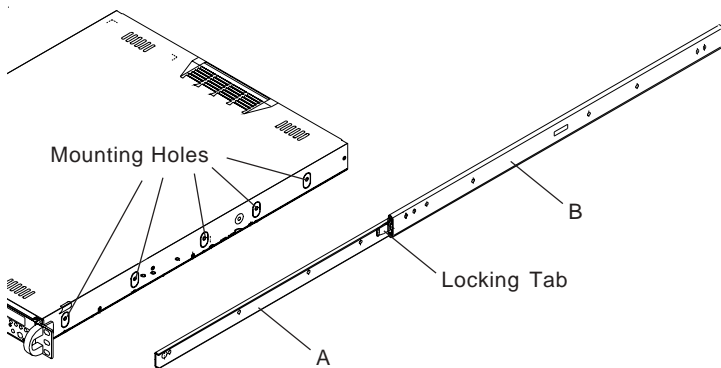

Figure 2-1. Identifying the Sections of the Rack Rails
You should have received two rack rail assemblies with the SuperServer 6011H. Each of these assemblies consist of two sections: an inner fixed chassis rail that secures to the 6011H (A) and an outer fixed rack rail that secures directly to the rack itself (B). A sliding rail guide sandwiched between the two should remain attached to the fixed rack rail. (See Figure 2-1.) The A and B rails must be detached from each other to install.